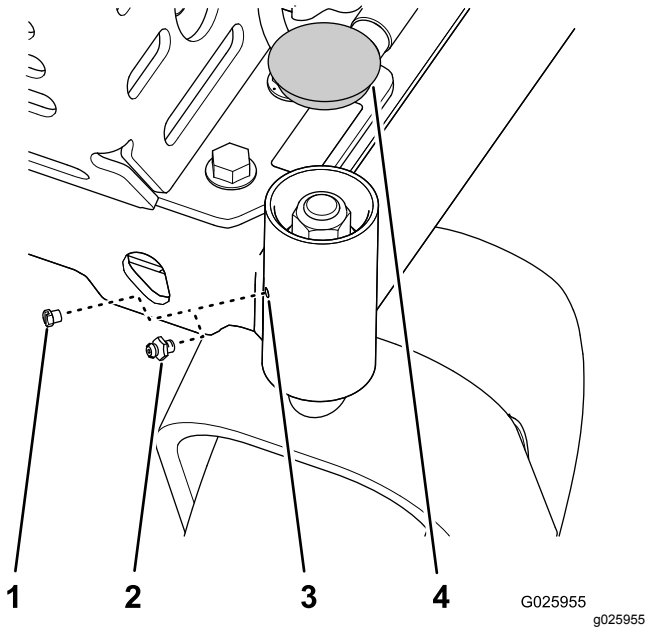

Figure 32
1. Remove cap and hex plug from the top of the caster pivot (Figure 32).
2. Thread grease fitting in hole (Figure 32).
3. Pump grease into the fitting until grease oozes out around top bearing (Figure 32).
4. Remove grease fitting and install the plug that you removed in 1 (Figure 32).
5. Install the cap that you removed in step 1 (Figure 32).